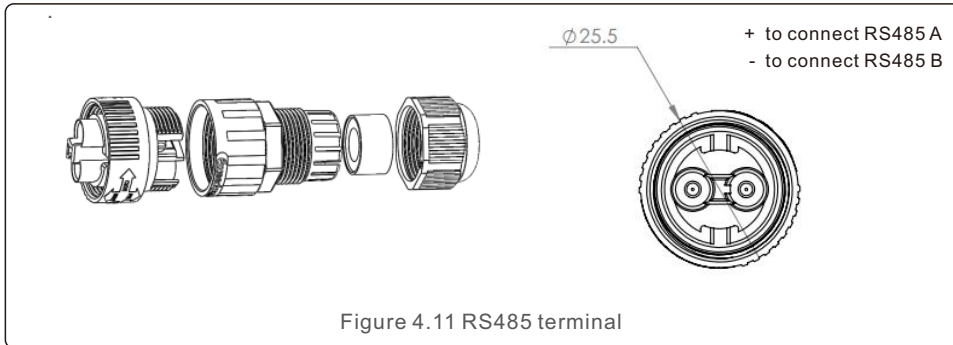

Figure 4.11 RS485 terminal
a. Refer to figure 4.11, the RS485 terminals for inverter and EPM are already assembled.
b. Refer to figure 4.11, connect communication cable between inverter with EPM, and then measure the distance from EPM to inverter. Use proper cable for RS485 connection. (0.5mm²)